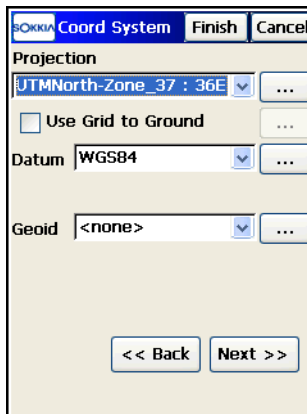
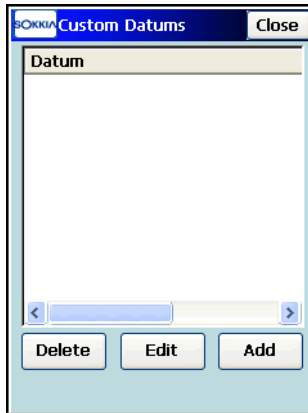

Figure 4-83. Coordinate System
Figure 4-88. Custom Datums List
1. On the *Coord System* screen, set the parameters of the coordinate system used: the projection, the Datum, and/or Geoid, then tap **Next** (Figure 4-83).
1. To manipulate projections/datums/geoids, tap the **List**  button (Figure 4-83 on page 4-63) in the corresponding field (for these operations, see the sections below).
From the *Coord System* screen (Figure 4-83 on page 4-63), select a projection from the drop-down list in the Projection field or add a projection by tapping the **List**  button next to the *Projection* field.
1. To add a datum, tap the **List**  button from the drop-down list in the *Datum* field on the *Coord System* screen (Figure 4-83 on page 4-63). The *Custom Datums* screen displays (Figure 4-88 on page 4-69).
2. On the *Custom Datums* screen, which is initially empty, press the **Add** button (Figure 4-88).